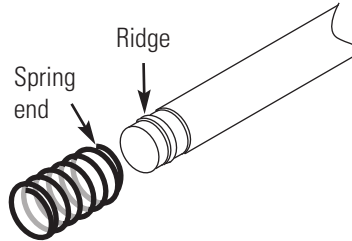

Figure 1-13. Spring End
6. Locate the supplied rod, spring and end pieces; 4 each. Assemble the spring to the rod by positioning the very end of the spring over the ridge at the rod. Then press the spring to the opposite side. It should snap into place. See Figures 1-13 and 1-14.